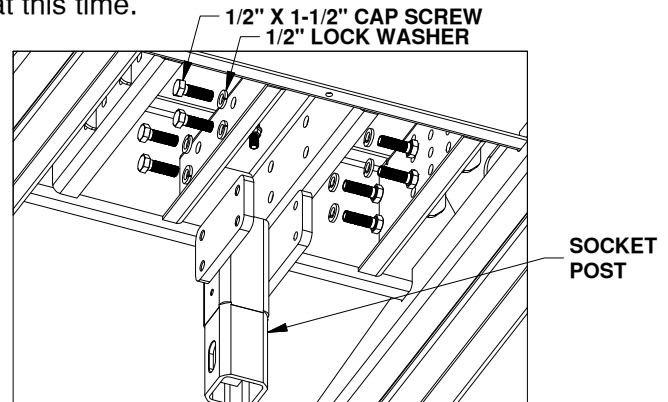

Figure B2: View of base looking up at the bottom.
2. Once you have established in which orientation the socket post should be installed, locate the socket post and eight 1/2" X 1-1/2" cap screws and 1/2" lock washers. Slide the socket post into the bottom of the Companion base and attach the socket post to the base with the eight 1/2" X 1-1/2" cap screws and lock washers. See figure B2. Do not fully tighten hardware at this time.